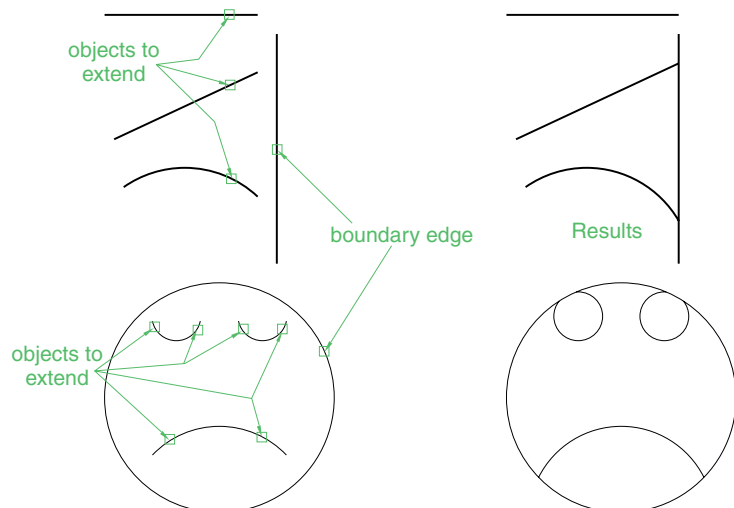

Fig. 5.40 Examples – **Extend**
Examples – Extend (Fig. 5.40)
1. Construct plines and a circle as shown in the left-hand drawings of Fig. 5.40.